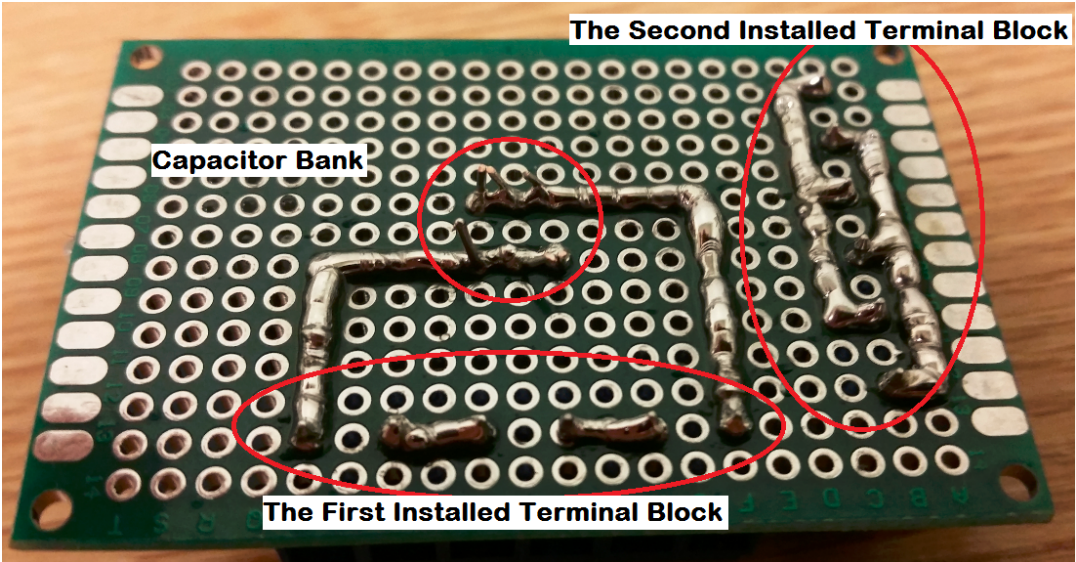

Figure 9: Circuit board solder pattern
9. Solder the board as shown below in Fig 9. As you can see, the three terminals of the “first installed terminal block” are connected in series to the capacitor bank. These terminals will connect to the inductor loop and source/loads. The terminals of the “second installed terminal block” are all connected in parallel. These terminals will connect to a separate inductor loop and source/loads in the TRIWPT Four-Loop configuration. See Figs 9 through 14 for details and schematics.